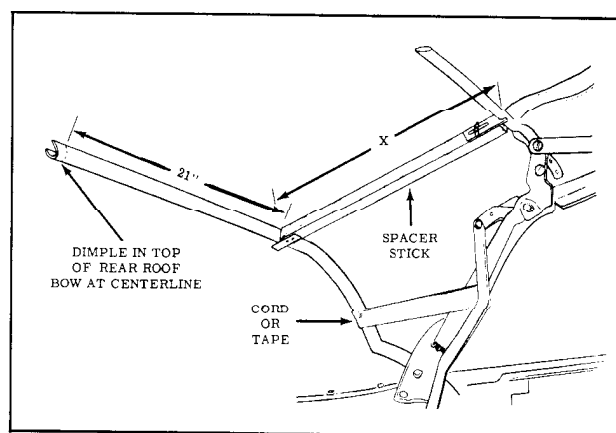

Fig. 17-123 Spacer Stick Installation
- 11. Lock top to windshield header. Install radius end of each adjustable spacer stick to fit against center roof bow. Install opposite end of spacer stick so that metal plate fits under rear roof bow. (Fig. 17-123) Spacer sticks should be installed along inboard edge of side stay pad or approximately 21" outboard from centerline dimple of rear roof bow. (Fig. 17-123) While exerting rearward pressure on rear bow to draw side stay pads taut, extend spacer sticks until they fit snug between center bow and rear roof bow, then tighten wing nuts.
- 12. Temporarily tie or tape rear bow to rear side roof rails. (Fig. 17-123) Detach side stay pads and back curtain with integral quarter stay pads from rear bow.
- 1. If new top is being installed but it was impossible to perform step 11 of removal procedure, preset spacer sticks to shortest length and install between center and rear roof bow. (Fig. 17-123) Adjust sticks so that dimension "X" (measured along spacer stick from front upper rolled edge of rear roof bow to center of center bow) is approximately 16-1/4". Tie or tape rear bow to rear side roof rails.